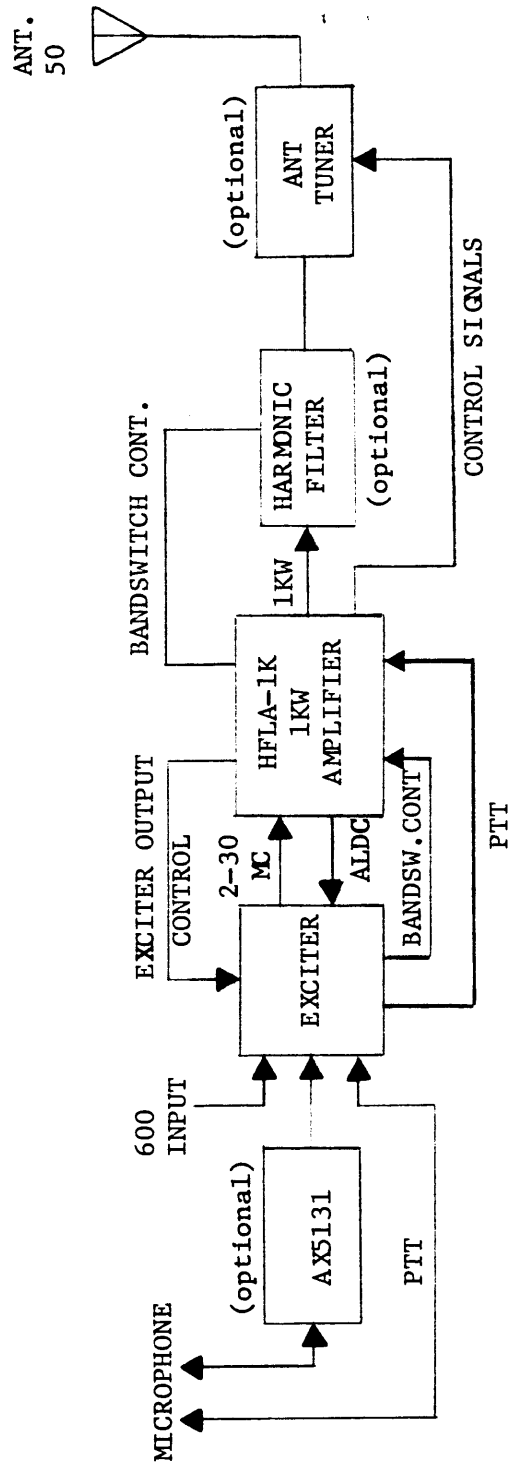

Figure 4-1. Functional Block Diagram
Figure 4-1 is an overall block diagram of the HFTA-1KJ2 Transmitter which illustrates a MMX Exciter driving a HFLA-1K Linear Power Amplifier. The linear amplifier portion of the HFTA-1KJ2 provides 1 kilowatt peak envelope power or 1 kilowatt average power. Additionally the HFLA-1K features rapid automatic tuning with manual override and preset Power Level selection (4 selections).
- a. Functional block diagram (Section 4, figure 4-1).